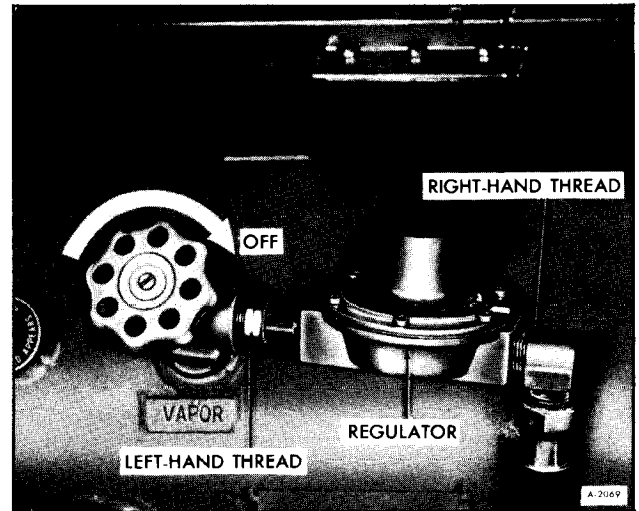

Figure 5-Regulator Attachment
1. Turn off gas at the tank (See figure 5).
**IMPORTANT:** The connector attaching the regulator to the vapor POL valve is left-hand threaded (See figure 5).
3. Position regulator as shown in Figure 5 and tighten all fittings securely.